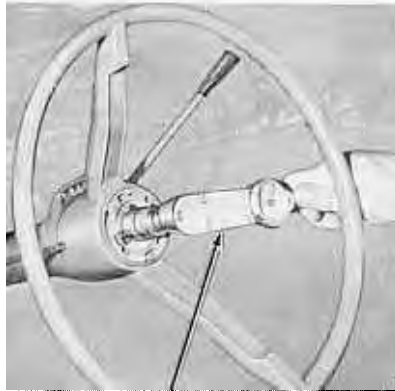

FIG. 30—Checking Pre-Load
torque wrench to the steering wheel nut (Fig. 30). With the steering wheel off center, read the pull required to rotate the input shaft approximately $1\frac{1}{2}$ turns either side of center. If the torque or preload is not within specification (Part 3-6), adjust as explained in the next step.
11. Turn the sector adjusting screw clockwise until the specified pull (Part 3-6) is necessary to rotate the worm past its center high spot (Fig. 30). No perceptible backlash is permissible at 30° on either side of center.